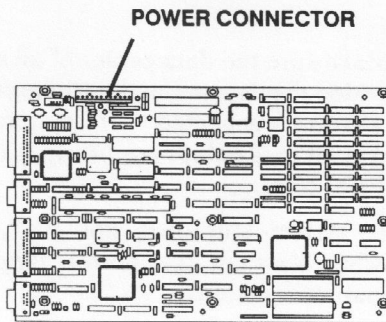

Figure 2. System Board Power Connector Location
2. Make sure the power cable to the system board is securely connected. Refer to Figure 2.